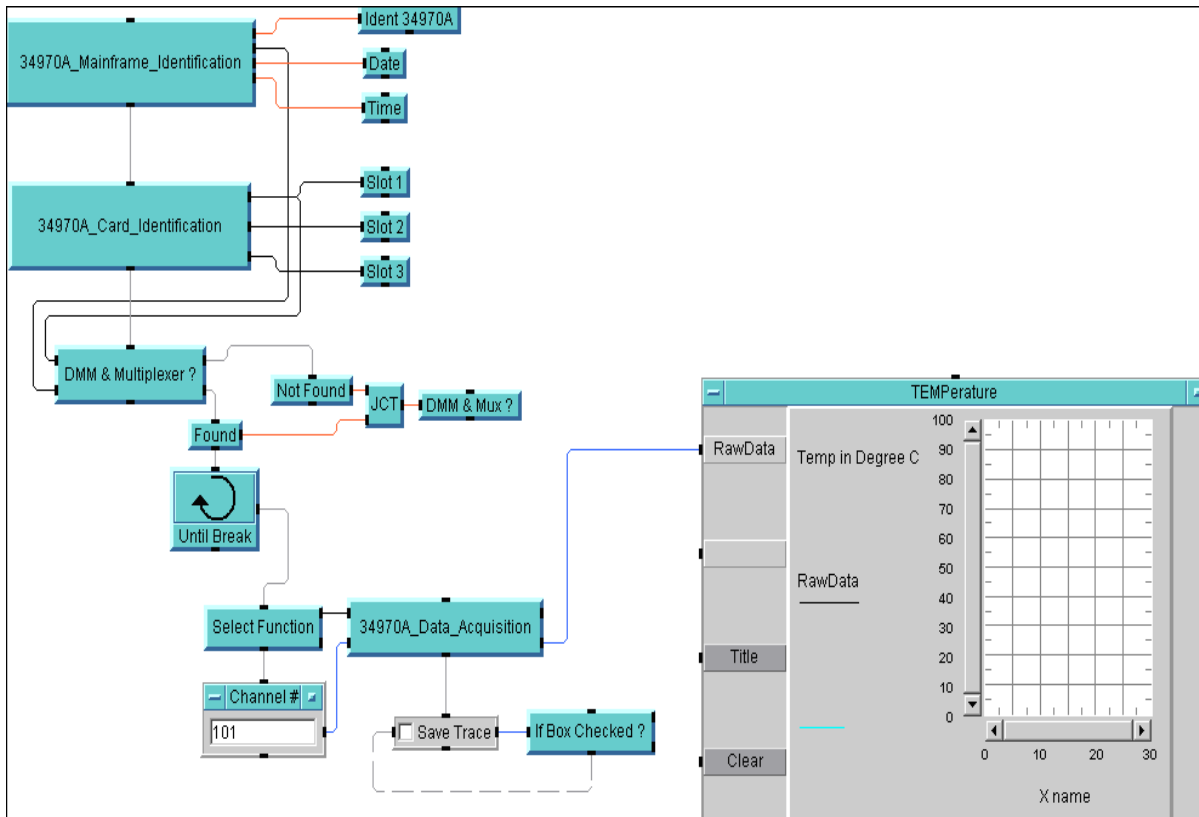

Figure 3-5 Partial program for temperature graphing
- 4 See Figure 3-5 for a simplified version of Agilent 34970a graphing program.